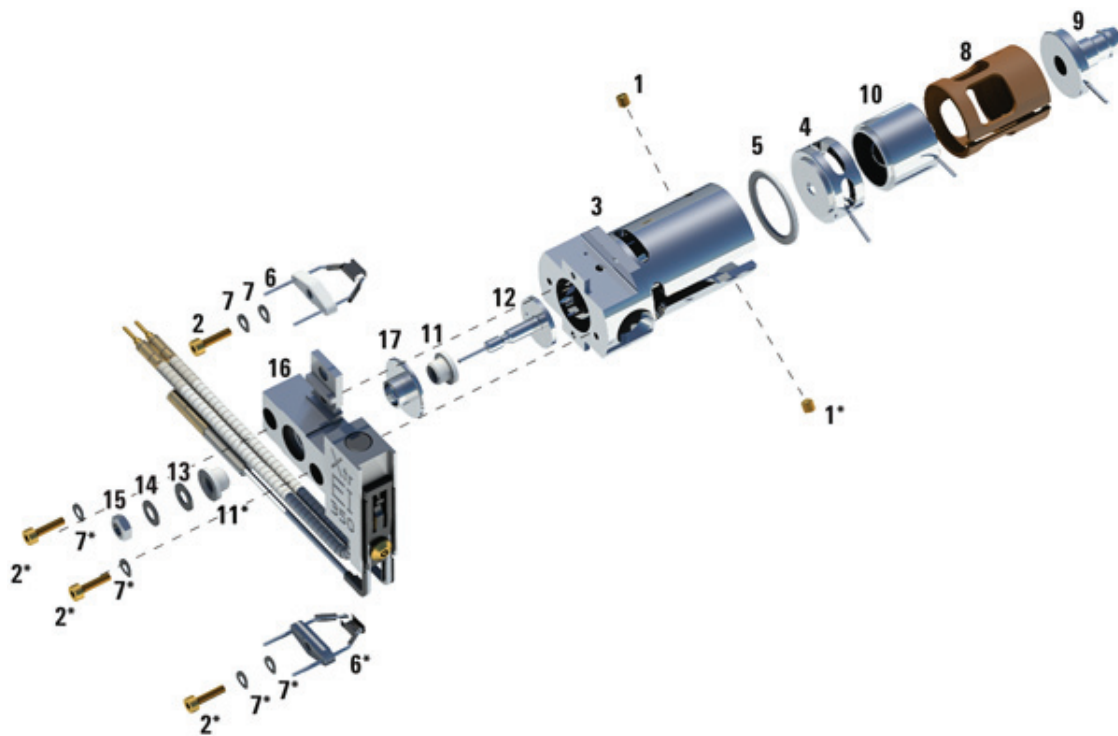

Figure 62. Assembling the EI XTR source
Refer to the exploded parts view **Figure 62** and EI XTR parts list **Table 24** on page 192 while using this procedure.
- 3 Insert the entrance lens and ion focus lens into the insulator in the order shown in **Figure 62** on page 192.
**Table 24** Parts list for EI XTR source (Figure 62)
**Table 24** Parts list for EI XTR source (Figure 62) (continued)